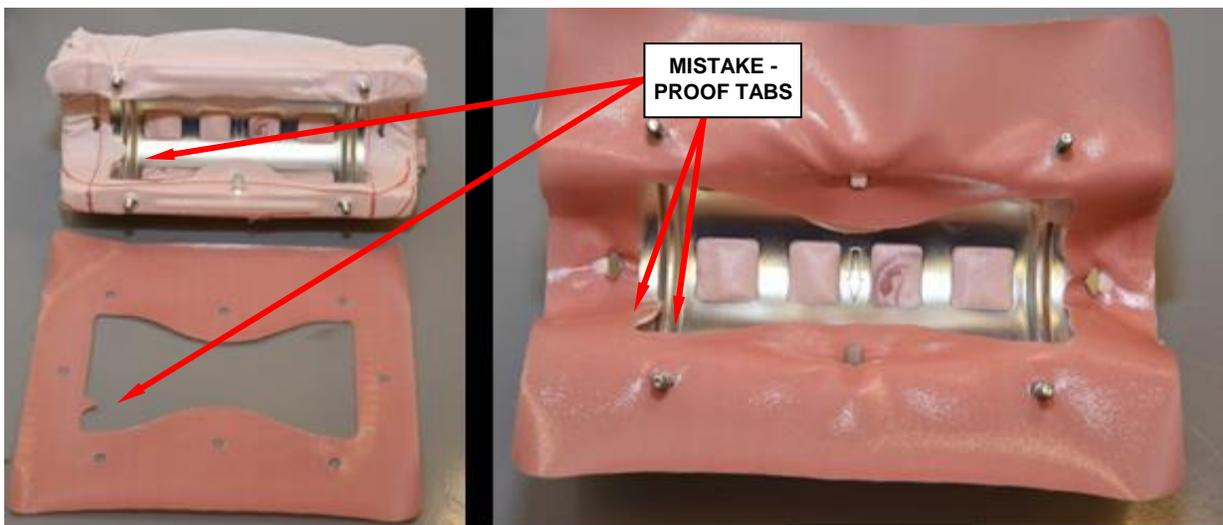

Figure 18 – Fabric Gasket to Cushion
h. Place the fabric gasket, glossy side up, onto cushion. Mistake-proof tab should be aligned to the tab on the cushion (Figure 18).